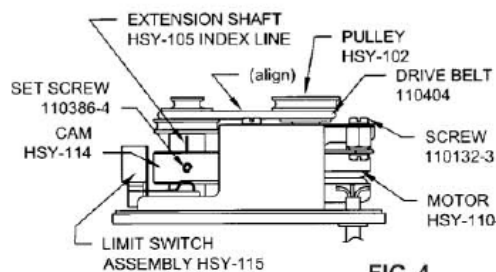

FIG. 4
8. RHSY Series pumps are powered by belt-coupled synchronous motors (refer to figs. 4 & 7c). To service this type of pump, **un-plug power cord**, loosen THUMB SCREW 110437 on rear of CASE ASSEMBLY HSY-109 from COVER ASSEMBLY HSY-113. It will then be noted that a machine SCREW 110230-6 and a STAND-OFF 110439 serve to lock the RH pump head assembly and the SY motor assembly to the COVER ASSEMBLY HSY-113. Removal of the machine screw and stand-off permits removal of pump head and/or motor bracket assembly. Loosening the two machine SCREWS 110132-3 holding the MOTOR ASSEMBLY HSY-110- permits adjustment of the drive belt tension (relocates motor position).
Pulley grooves on motor and pump must be in alignment as shown in fig. 4. SET SCREWS 110288-2 in parts HSY-102 and HSY-105 may be loosened as necessary to achieve such alignment. **Tighten screws** after any service adjustment and **replace CASE ASSEMBLY HSY-109** before plugging electric cord into outlet.
rate is controlled by the groove position in which the belt has been placed. Thus in fig. 4, with belt in central position as shown, the pump operates at 300 strokes per minute; with belt on the small-motor-pulley and large-pump-pulley, (fig. 4) it operates at 150 strokes per minute and with the belt on the large-motor-pulley/small-pump-pulley the pump operates at 600 strokes per minute.